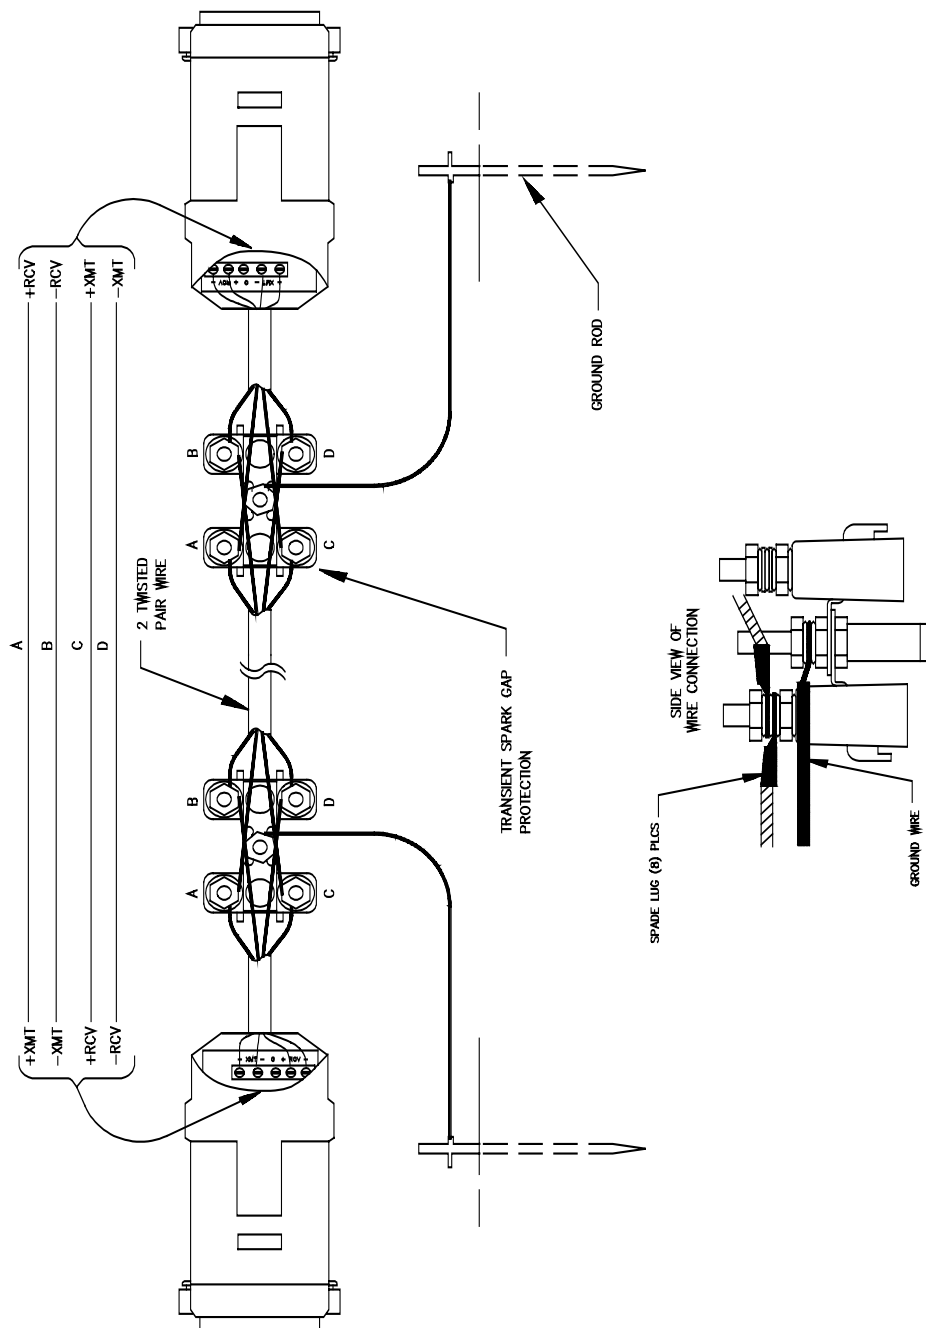

FIGURE 7. Installation of Spark Gap Protection
Figure 7 shows a typical setup of the RAD modems. Installation is as follows:
3. Wiring connections are made as shown in Figure 7. Note wires labeled A and B are one twisted pair of the cable. Wires labeled C and D are the other twisted pair.
4. Transients induced on the communication line may damage any electronics connected at either end of the line. To decrease the chances for damage, spark gaps should be installed as shown in Figure 7. The
transient protection shown may be purchased from Campbell Scientific, Inc. (p.n. 5563 shown in Figure 7, p.n. 6536 includes a plastic case, p.n. 6361 includes hardware for mounting to ground lug of CSI enclosures models ENC 10/12, ENC 12/14, or ENC 16/18). Spark gap wiring is straight through such that pin to pin continuity exists between the two modems. If the modems are installed entirely within a building, the transient spark gap protection is probably not needed.